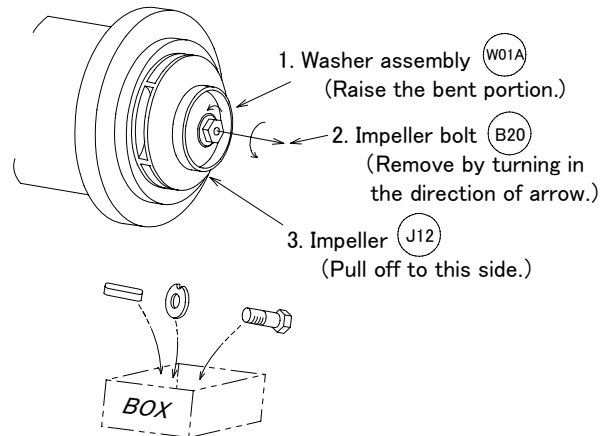

Fig.4-6 Removal of Impeller
(6) Removal of impeller (Refer to Fig.4-6.)